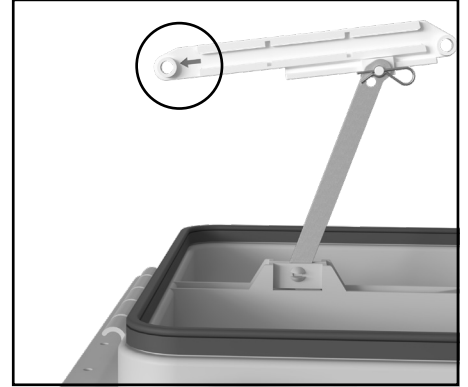

Figure 19
- d. With the indicator arrow pointing forward/toward the hinge, slide the universal cross bar into the I-Beam slider. (Any where along the beam is ok for now.). **(Figure 19)**